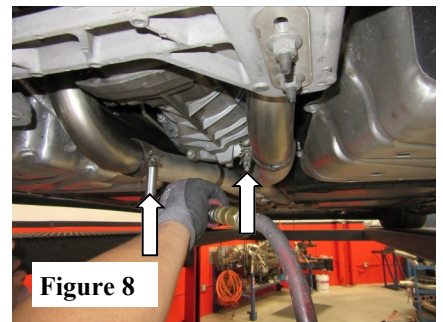

Figure 8
4. Insert right-side rear assembly over rear-axle and insert inlet to installed H-Pipe. Carefully insert hangers into rubber isolator. (See Fig. 8) **DO NOT TIGHTEN HARDWARE.**
5. Repeat step 4 for the left-side rear assembly. (See Fig. 8)